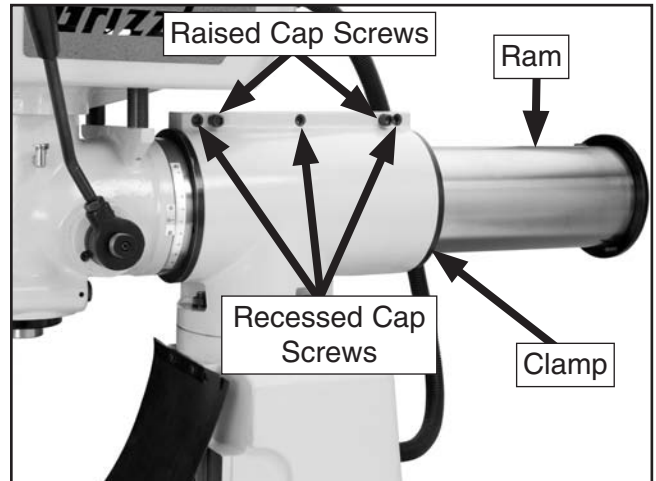

Figure 28. Location of cap screws for adjusting ram movement.
2. Loosen the three recessed cap screws, then tighten the two raised cap screws slightly to expand the clamp (see **Figure 28**).